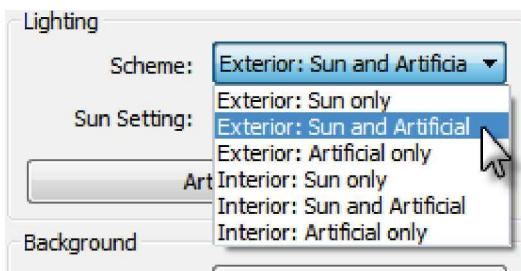

FIGURE 14-2.11 Lighting options
25. In the *Lighting* section, click the down-arrow next to *Scheme* to see the options; select **Exterior: Sun and Artificial** (Figure 14-2.11).